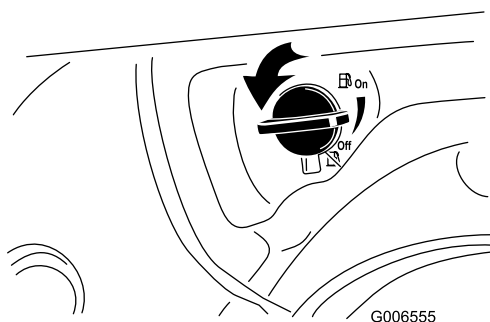

Figure 24
2. Turn the fuel shutoff valve 1/4 turn counterclockwise to open it (Figure 24).